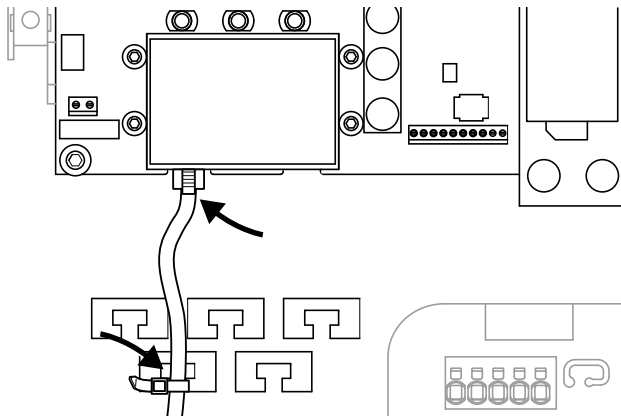

Fig. 41: Fasten the cable to the cable tray
1. Properly fasten all cables to the cable tray with a cable tie.  **Fig. 41**